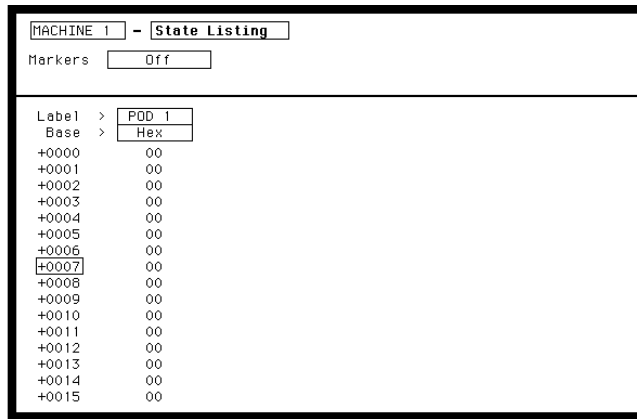

Figure 3-13. State Listing for Data Test 2
- Set the **State Trace Specification** without sequencing levels and set **Count** to **Off** as in Figure 3-13.
- Set the **State Trace Specification** without sequencing levels and set **Count Off** as in previous figure 3-13.
- Set the **State Trace Specification** without sequencing levels and set **Count Off** as in previous test figure 3-13.